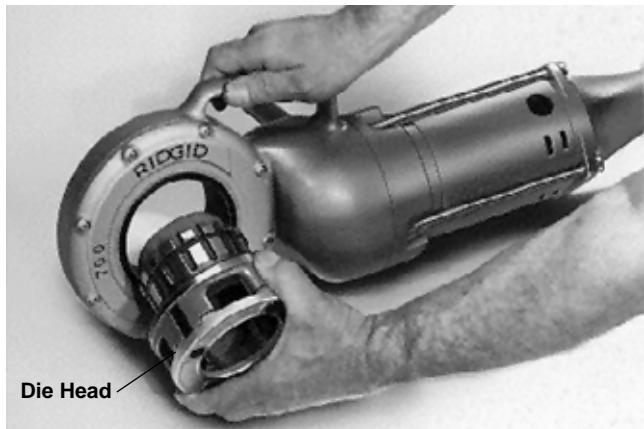

Figure 3 – Installing No. 12-R Drop Head Die Head
- Push Die Heads or Adapters, spline end first, squarely into the Power Drive until the spring-loaded adapter pawls catch securely (*Figure 3*).